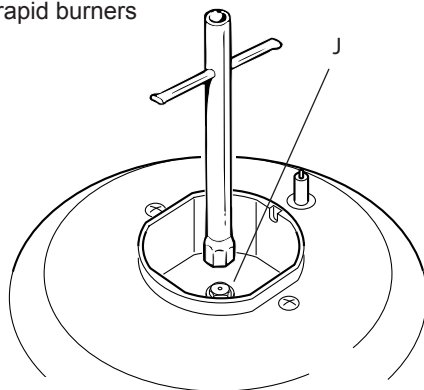

Fig. 8.5a
- Using a wrench, substitute the nozzle injectors “J” (figs. 8.5a - 8.5b) with those most suitable for the kind of gas for which it is to be used.